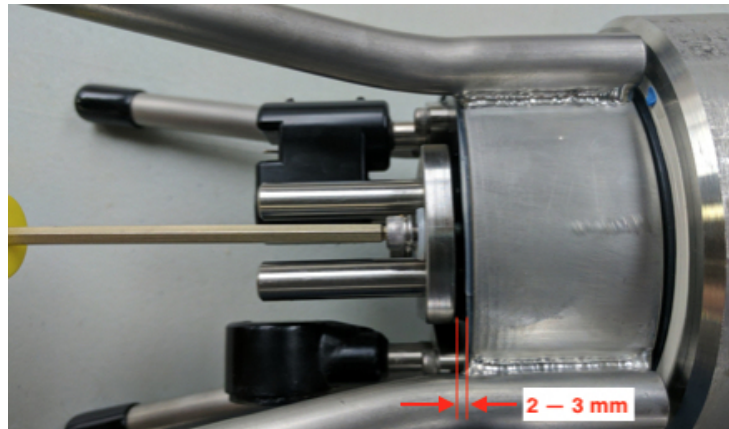

Figure 14: Loosening the Seal Compression Plate
1. Loosen both screws located on each end of the plate (Figure 14). A gap of 2 – 3 mm between the plate and the front bulkhead is required to completely decompress the O-ring.